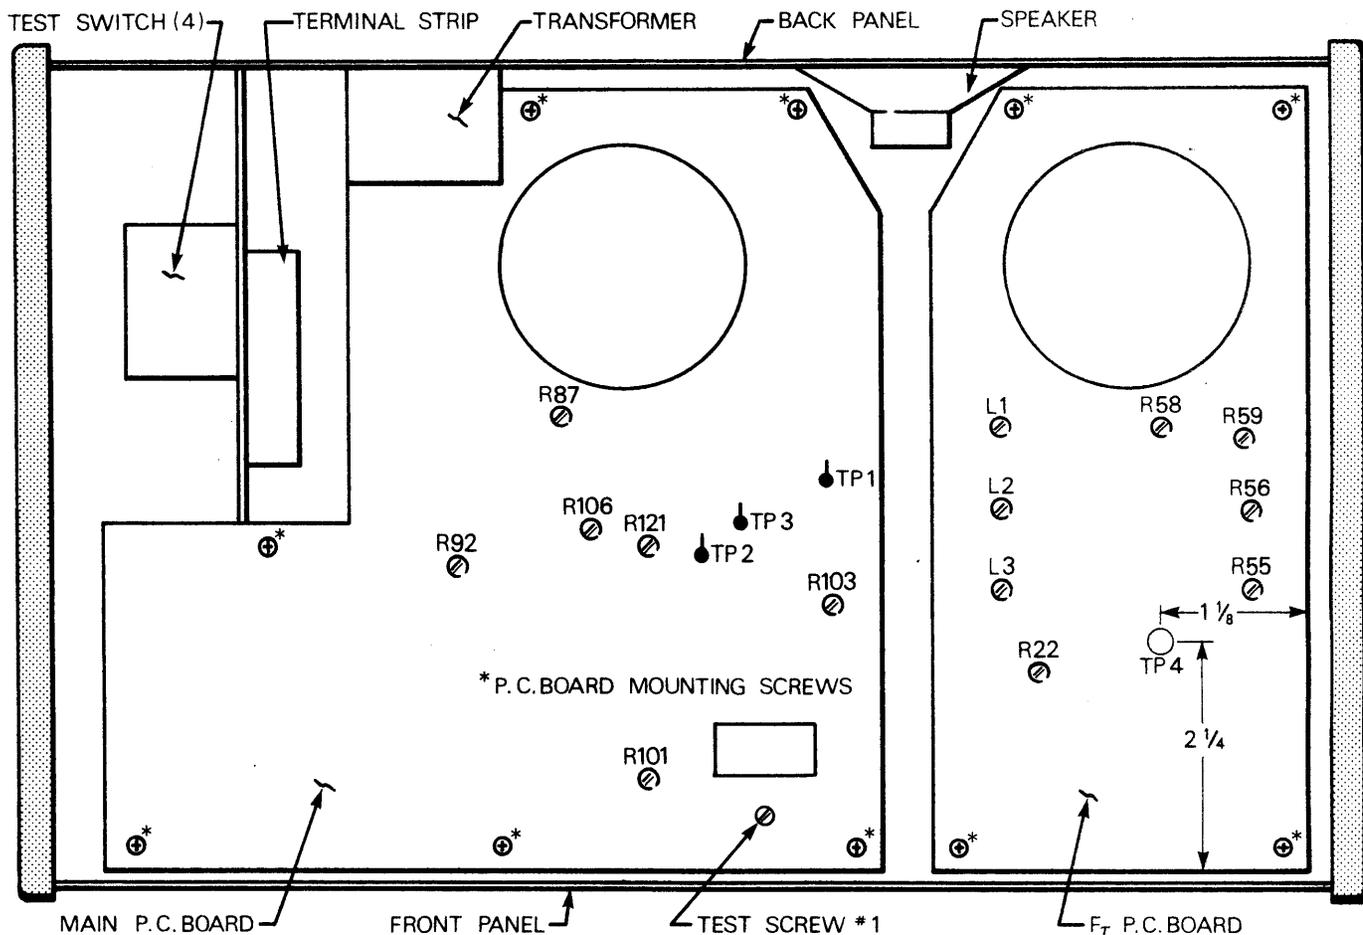
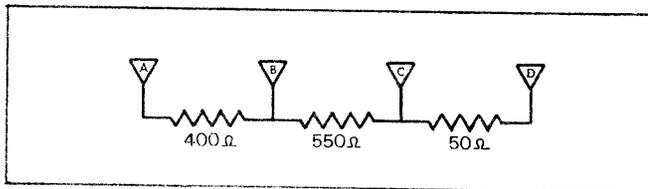
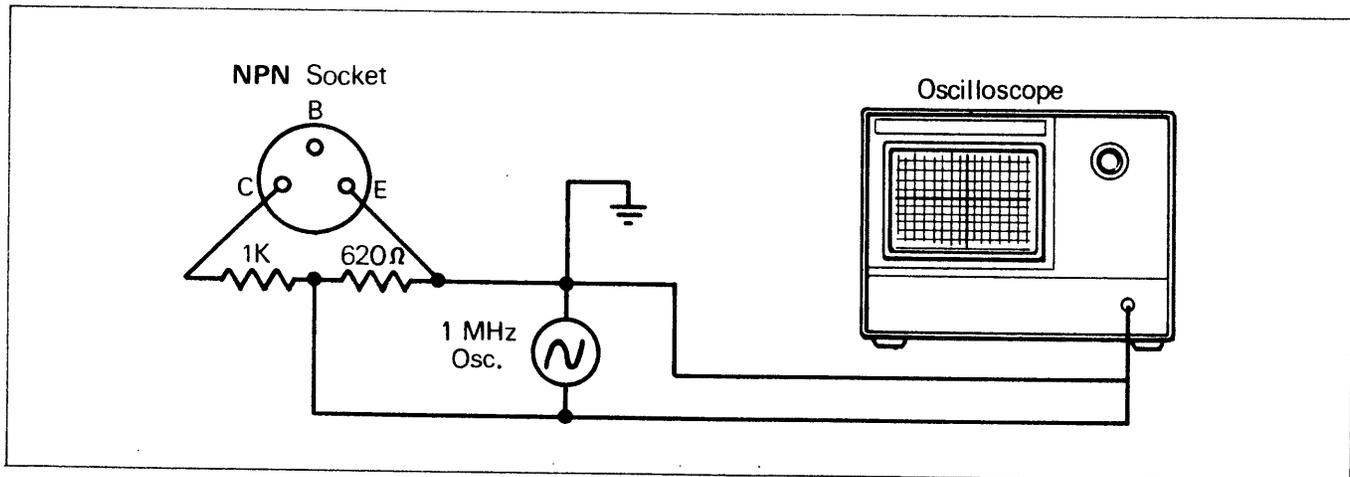

Fig. 8. Bottom view of Model 530, with bottom panel removed.
Fig. 9. Resistive network.
Fig. 14. Field calibration, f_T circuit.
1. Turn the Model 530 power off. If LEAKAGE/GAIN meter (19) does not indicate zero, insert a suitable screwdriver in the hole just below the meter and adjust it to indicate zero on top scale.
2. Turn the Model 530 power on, if the LEAKAGE/GAIN meter (19) indicates zero on top scale, proceed to step #4. If the LEAKAGE/GAIN meter (19) does not indicate zero, turn the 530 power off, unplug the unit and remove the 530 bottom panel by removing the five screws (three on bottom panel and two on back panel).
3. Plug in the unit and turn power on. Adjust the zero control trimpot R-87 with suitable screwdriver so that meter is at zero. Refer to Fig. 8 for trimpot location.
4. With power on, set the HI PWR/LO PWR switch (10) to "LO PWR" position. Turn TRANSISTOR BETA/FET g_m switch (9) to "TRANSISTOR BETA" position. LEAKAGE/GAIN meter (19) should read zero on top scale; if not, remove bottom panel of the 530 and adjust zero β CAL trimpot R-106 with suitable screwdriver (while holding the TRANSISTOR BETA/FET g_m switch (9) in "TRANSISTOR BETA" position) so that the LEAKAGE/GAIN meter (19) reads zero on top scale. Refer to Fig. 8 for trimpot location.
5. Press Model 530 PUSH-TO-TEST switch (13) and adjust front panel LEAKAGE VOLTS control (14) so that the external meter reads 0.9 milliamp DC.
6. The Model 530 LEAKAGE/GAIN meter (19) should read $900 \mu\text{A}$ on top scale. If meter does not read $900 \mu\text{A}$, unplug the 530 and remove the bottom panel.
7. Plug the 530 into the power source and repeat step #5. With suitable screwdriver, adjust trimpot R-103 so that LEAKAGE/GAIN meter (19) reads $900 \mu\text{A}$ on top scale. Refer to Fig. 8 for trimpot location.
3. Build yourself a simple resistive network as shown in Fig. 9 (either by fixed resistors or by adjusting trimpots).
4. Remove the small grounding TEST screw #1 and washer from back of the main P.C. board (at the corner next to the pushbutton switch). Refer to Fig. 8. Connect a lead between point "A" of the resistive network (Fig. 9) and main P.C. board test point 2 (TP-2); also connect a lead between point "D" (Fig. 9) and main P.C. board test point 3 (TP-3). Refer to Fig. 8.
5. Set HI PWR/LO PWR switch (10), of the Model 530, to the "LO PWR" position. Set NPN/PNP switch (12) to the "NPN/N-CH" position. Lever Test switch (4) should be in the top-most position. Connect the blue test lead, which should be plugged into the blue test lead socket (6), to point "C" of resistive network (Fig. 9).
6. Plug the Model 530 into the power source and turn power switch (11) on. Turn TRANSISTOR BETA/FET g_m switch (9) to "TRANSISTOR BETA" position. LEAKAGE/GAIN meter (19) should read "50" on LO β scale. If not, adjust main P.C. board trimpot R-121 with suitable screwdriver (while holding the TRANSISTOR BETA/FET g_m switch (9) in "TRANSISTOR BETA" position), so that the meter reads "50" on LO β scale. Refer to Fig. 8.
7. Connect the blue test lead to point "B" of the resistive network (Fig. 9). Turn the TRANSISTOR BETA/FET g_m switch (9) to "TRANSISTOR BETA" position. The LEAKAGE/GAIN meter
(19) should read full scale. If not, adjust main P.C. board trimpot R-101 with suitable screwdriver so that LEAKAGE/GAIN meter reads full scale. Refer to Fig. 8. Unplug the Model 530 from power and disconnect all leads. Replace test screw #1 and washer to its original position. Refer to Fig. 8.
1. Turn Model 530 off. If f_T OUT-OF-CIRCUIT meter (18) does not indicate zero, insert a suitable screwdriver in the hole just below the meter and adjust it to indicate zero on the top scale.
3. Turn Model 530 power on. Without any transistors plugged into f_T sockets (15) or (16), check for f_T meter (18) reading of zero for each range selected on the RANGE, MHz Switch (17). If the f_T meter (18) does not read zero, adjust R-55 to obtain a zero reading (Fig. 8).
- (d) Adjust R-22 for a collector current of 10 milliamperes (See Fig. 8 for location of R-22).
- (b) Insert NPN transistor into front panel socket labeled NPN (16). All frequency measurements are taken at TP-4. See Fig. 8 for location of TP-4 and oscillator coils.
- (a) Connect two resistors in series and connect to Model 530 NPN Transistor Socket (16) as shown in Fig. 14. Turn power on. (See Fig. 8 for location of R-56, R-59 and R-58).
- (b) Set Range Switch (17) to 0-100.
- (d) Adjust R-56 for a reading of 60 on the top scale of the f_T meter (18).
- (e) Set Range Switch (17) to 0-500.
- (g) Adjust R-59 for a reading of 60 on the top scale of the f_T meter (18).
- (h) Set Range Switch (17) to 0-1500.
- (j) Adjust R-58 for a reading of 54 on the top scale of the f_T meter (18).
- DRIVE switch (5).
- LO PWR/HI PWR test selector switch (10).
- NPN/PNP test selector switch (12).
- (b) Pull to remove knob from the LEAKAGE VOLTS control (14).
- (c) Pull to remove knob and remove the mounting nut from the TRANSISTOR BETA/FET g_m test selector switch (9).
- (f) Remove the six P.C. board mounting screws (identified with an asterisk in Fig. 8) from the main P.C. board located as follows: